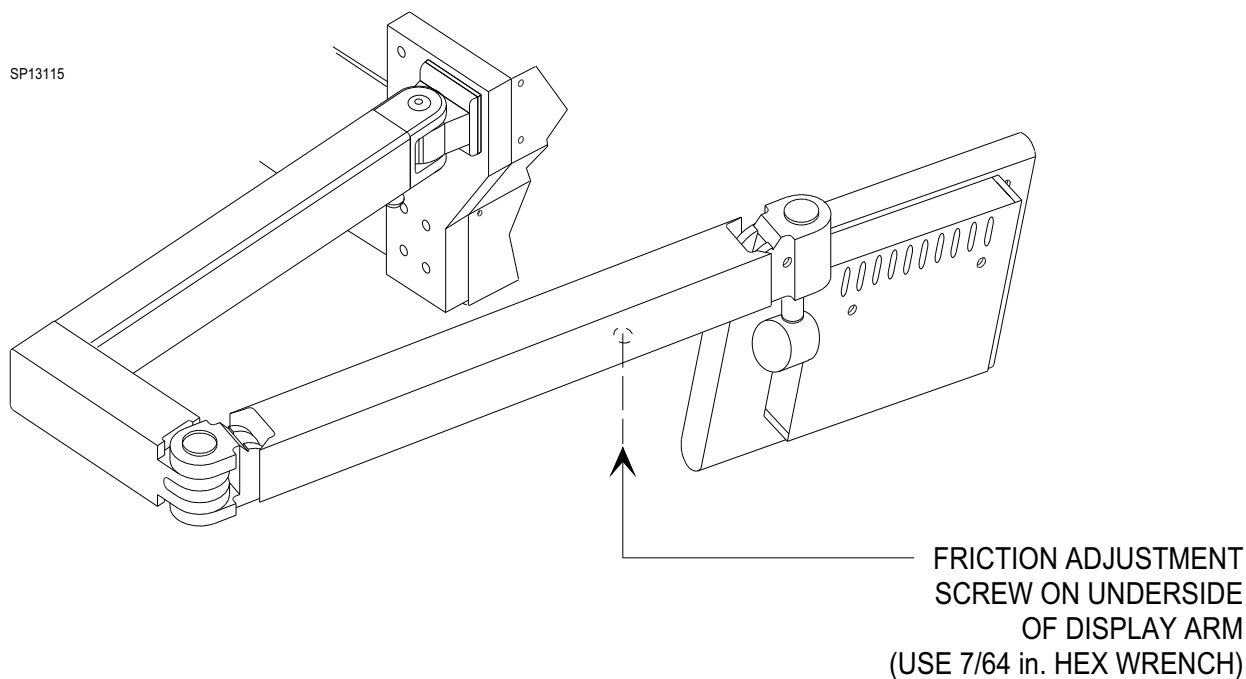

Figure 15: DISPLAY ARM ADJUSTMENT
67. Loosen the friction adjustment screw on the underside of the display arm (no more than one turn). (It may be necessary to raise or lower the arm to align the screw with the access hole.) See Figure 15.